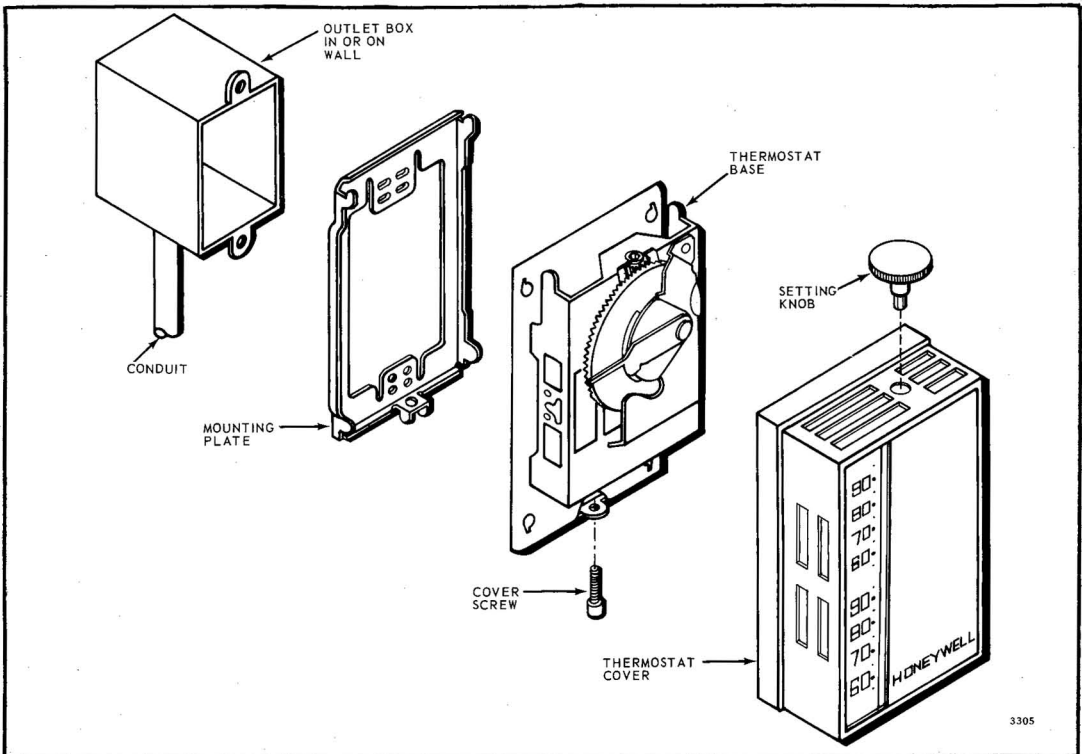

Fig. 2—Mounting Thermostat on Outlet Box.
4. Place the mounting plate on the outlet box either vertically or horizontally. Insert the two furnished mounting screws, leaving them loose enough to move the mounting plate for leveling. See Fig. 2.
5. Level the mounting plate and tighten the mounting screws. (See Fig. 2.)
8. Hang thermostat on mounting plate tabs, see Fig. 2.